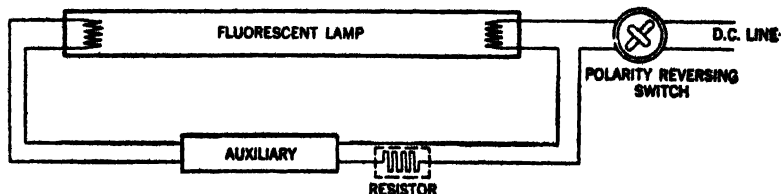

FIG. 5,225-30.—Wiring diagram of fluorescent lamp for operation on direct current.
*polarity reversing switch, this end dimming may be eliminated. Fig. 5,225-30 shows a general wiring diagram of the fluorescent lamp and necessary circuit elements for d.c. operation.*